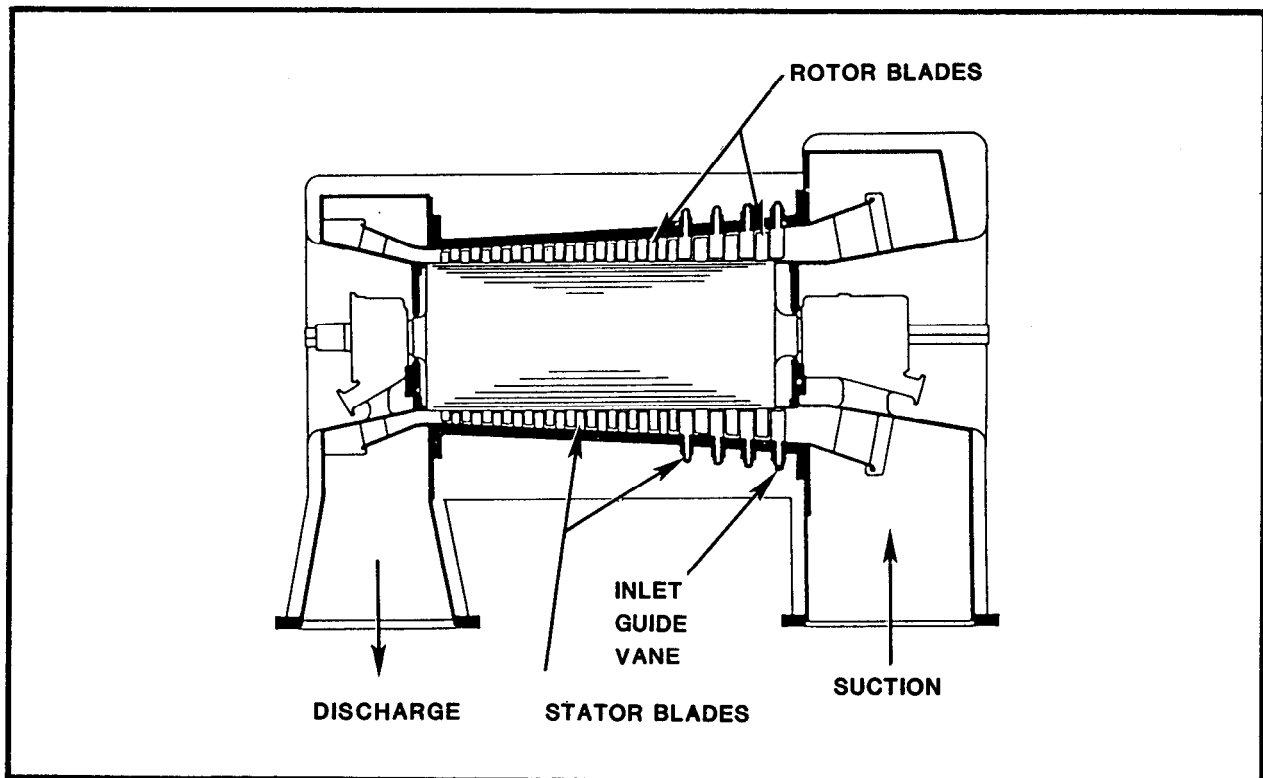

FIGURE 3-4. Axial Flow Compressor
1.2 Axial Flow Compressor. The major components of an axial flow compressor are: rotor with rows of blades, and a stator with rows of stationary blades (figures 3-4 and 3-5). The moving blades accelerate the air, and the stationary blades direct the flow of air into the next row of moving blades.